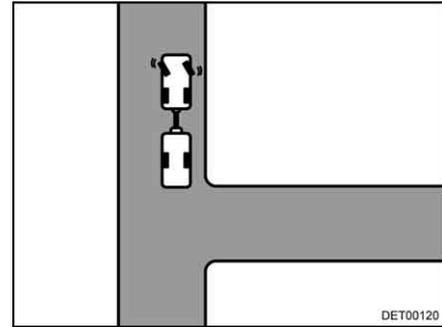

Fig. 13 Steer to the left
- Steer the stationary towing vehicle and trailer to the left (Fig. 13).